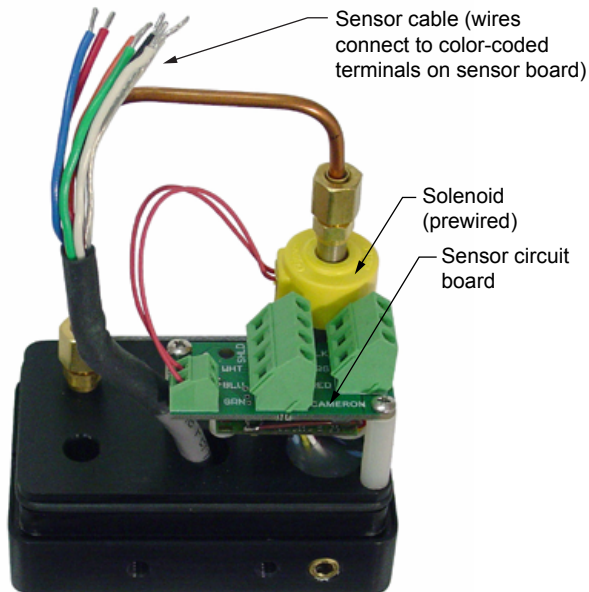

Figure B.4—CS60 sensor components
8. Route the cable through the unused cord grip of the integral sensor, and strip off the outer insulation to expose seven colored wires. Wire to the corresponding color-coded terminals (Figure B.4, page B-3). Since these terminals already contain wires from the cable that connects to the CS60 main board, this will result in two wires being inserted into each sensor terminal. Gently tug at each wire to ensure it is snugly connected.